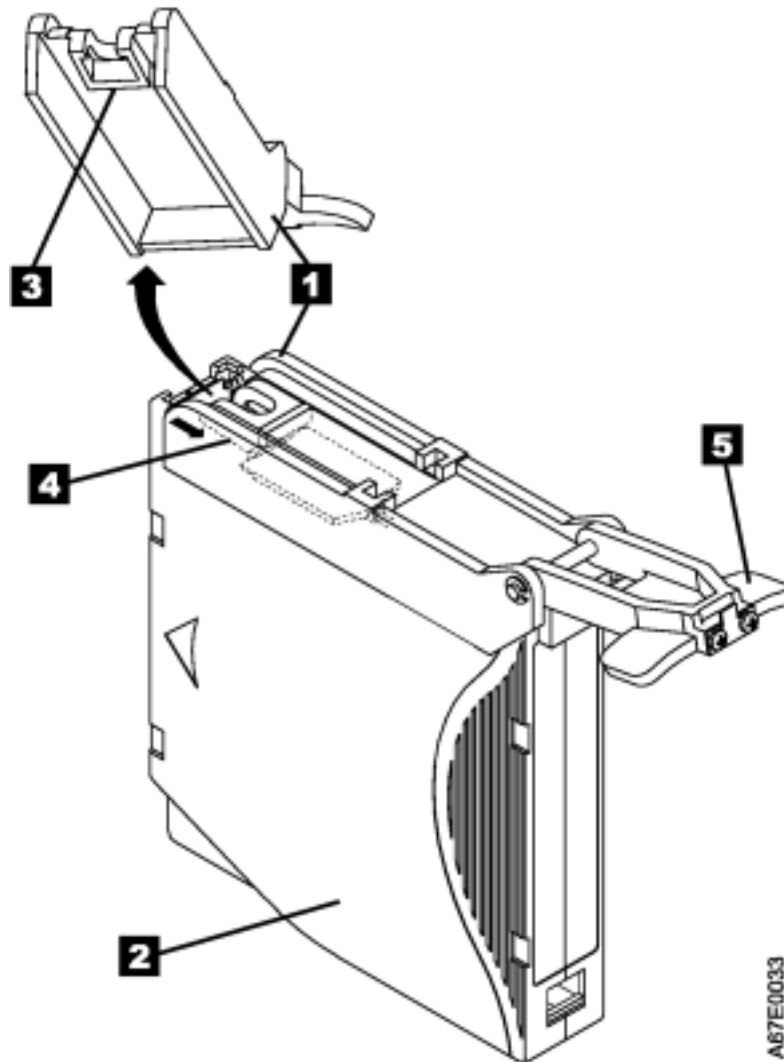

Figure 39. Attaching the leader pin attach tool to an LTO tape cartridge
1. Attach the leader pin attach tool (1 in Figure 39 on page 132) to the cartridge (2) so that the tool's hook (3) latches into the cartridge's door (4). Pull the tool back to hold the door open, then slide the tool onto the cartridge. Open the tool's pivot arm (5).